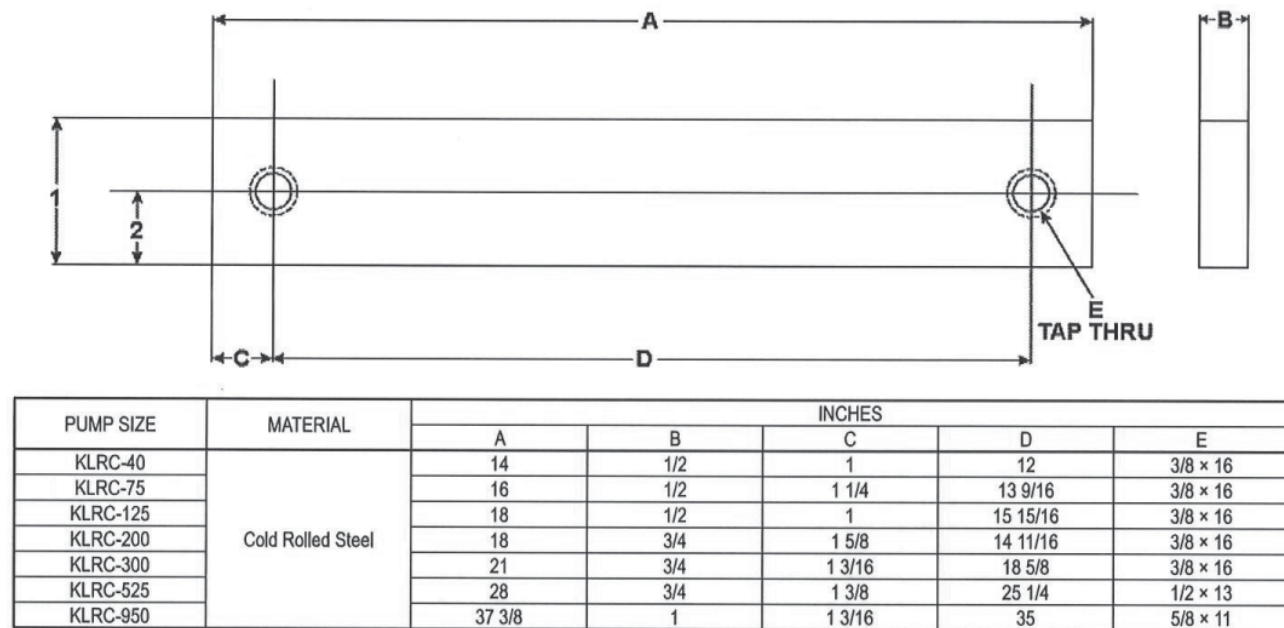

Figure 8-3 – Foot Alignment Tool
5. To ensure correct alignment of the feet of both end casings, an alignment bar as shown in **Figure 8-3 on page 28** can be bolted to the end casing feet to get correct radial alignment. Then loosen one bolt lightly and tighten the tie-rod nuts as in step 5 in **NDE Stage on page 23**.